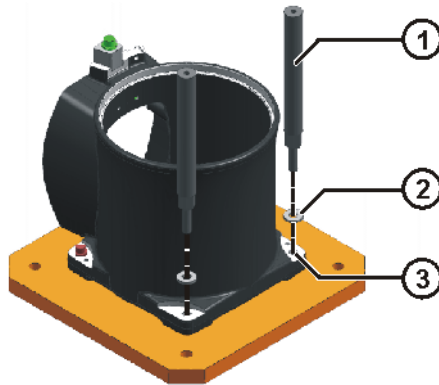

Fig. 8-1: Inserting supports
2. Insert 2 supports together with conical spring washers into the holes that have thus become available, and tighten; tightening torque $M_A = 45.0 \text{ Nm}$ (>>> Fig. 8-1).